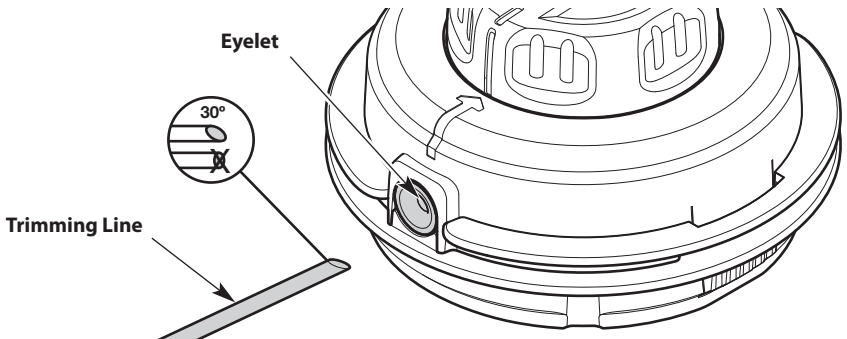

Fig. 23
2. Cut two 10-foot (3 m) lengths of new trimming line. Cut one end of each line at a 30 degree angle (Fig. 23).
4. Insert one of the lines into an eyelet (Fig. 23).
- Insert the end that was cut at a 30 degree angle (Fig. 23).